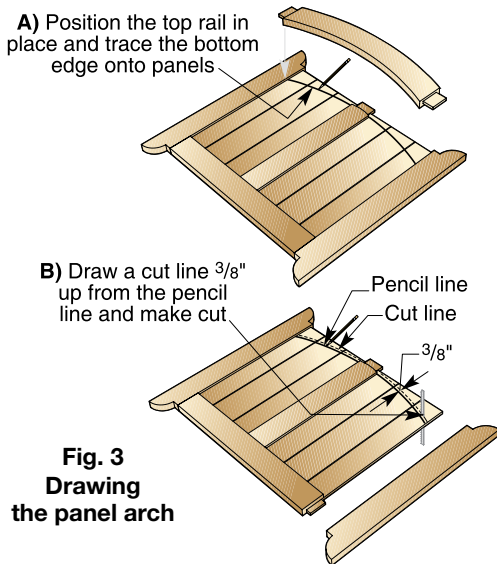

Fig. 3
4 MORTISE THE STILES (A) FOR THE TENONS ON THE BOTTOM RAIL (B) AND TOP RAIL (C) where shown in **Figure 3** using a hollow-chisel mortiser. If you don't own a mortiser, use your drill press and a 1/2"-diameter Forstner bit to remove most of the waste. Pare the opening with a chisel, establishing clean, square corners.
6 CUT THE PANELS TO MATCH THE CURVED TOP BY ASSEMBLING THE GATE FRAME, MINUS THE TOP RAIL (C). Insert the panels (E) and (F) into the grooves as shown in **Figure 1**. Next, position the top rail (C) as shown in **Figure 3**. Make a light pencil line along the bottom edge of the top rail. Mark 3/8" up from that previous line and, aligning the top with these marks, scribe a second line parallel to the first. Now remove the rail